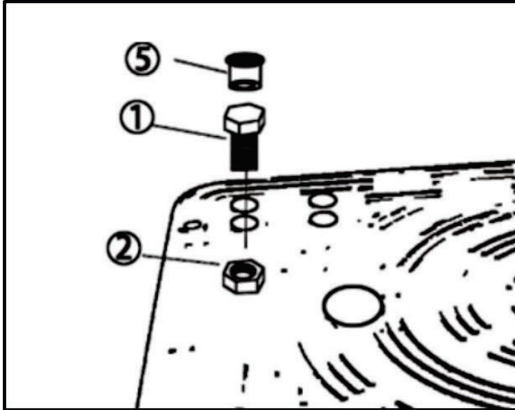

Figure 1
1. Insert the Bolt (1) into the hole from up of Platform (6) and go through the hole, make sure the hex shape of Bolt and the hole are aligned, and the Bolt is completely seated in the hex hole. (see Figure 1)
2. Insert all the Rubber cap (5) to seal the bolt in the position. (see Figure 1)